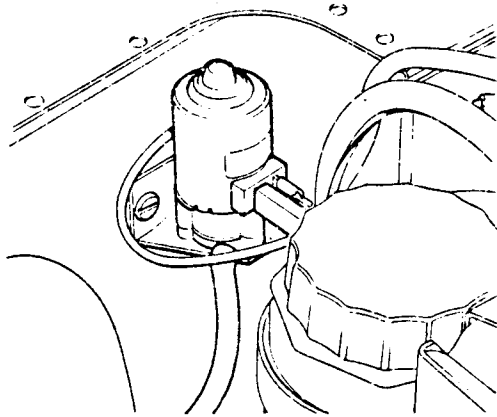

Fig V3.5
- (2) Refer to Fig V3.5. Disconnect the washer tubes from the washer pump. Note that the suction tube (washer reservoir tube) is fitted to the pump union adjacent to the radiator.
- (3) Detach the electrical feed wire and earth wire from the pump.
- (4) Remove the two bolts and washers securing the pump, pump bracket and earth wire to the wing valance.
- (5) Remove the pump, pump bracket and earth wire.